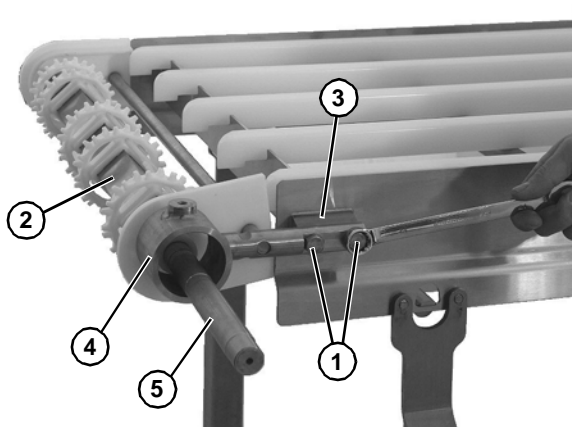

Figure 59
7. Remove two bolts (Figure 59, item 1) on each side, and slide the drive tail assembly (Figure 59, item 2) off the mounting posts (Figure 59, item 3).
8. Slide the motor support bracket (Figure 59, item 4) off the drive spindle shaft (Figure 59, item 5).